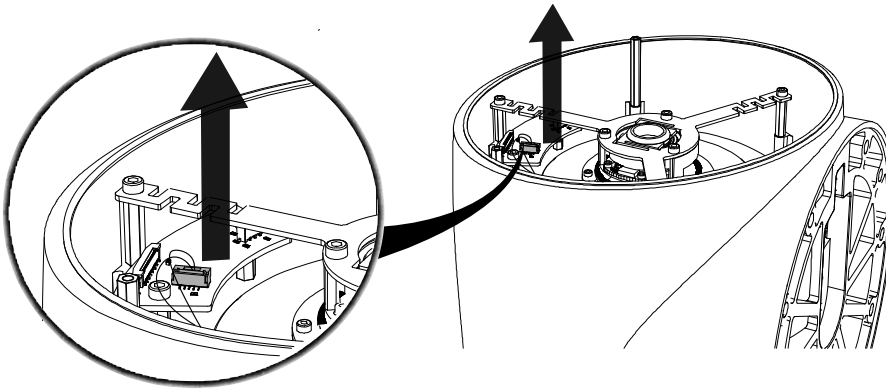

Figure 2-3: Brake wire of joint 1 and 2 of Zu20 and Zu30
3. Unplug the break wire on the driver board (shown in Figure 2-3 below).